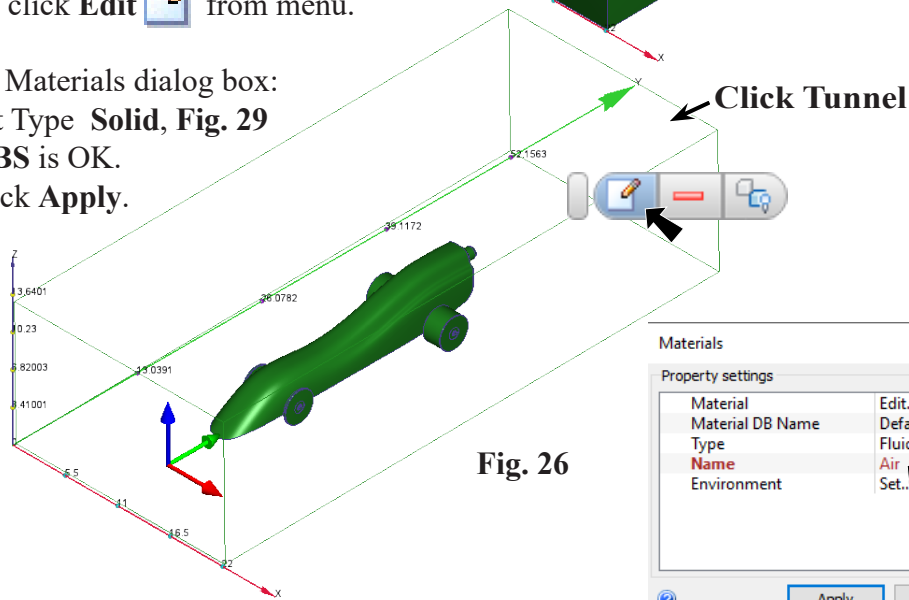

Fig. 26
Step 2. Click the **Tunnel** outline and click **Edit**  in the pop-up, **Fig. 26**.